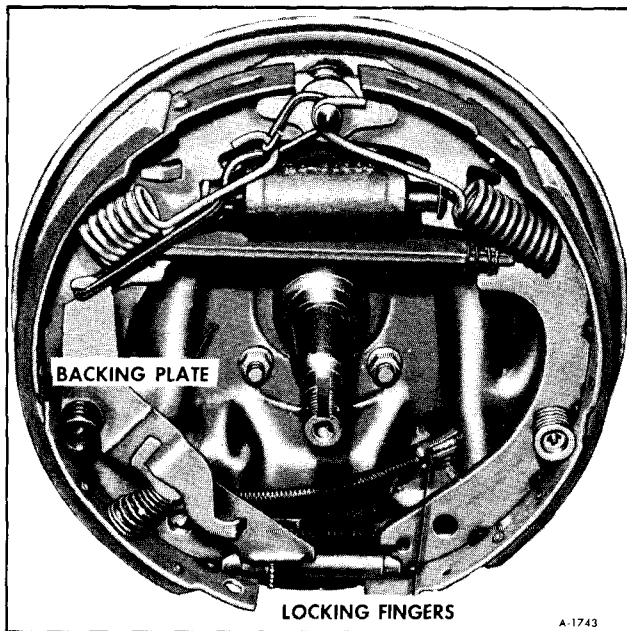

Figure 29—Locking Fingers
6. Compress the locking fingers and pull the rear cable from the backing plate refer to Figure 29.